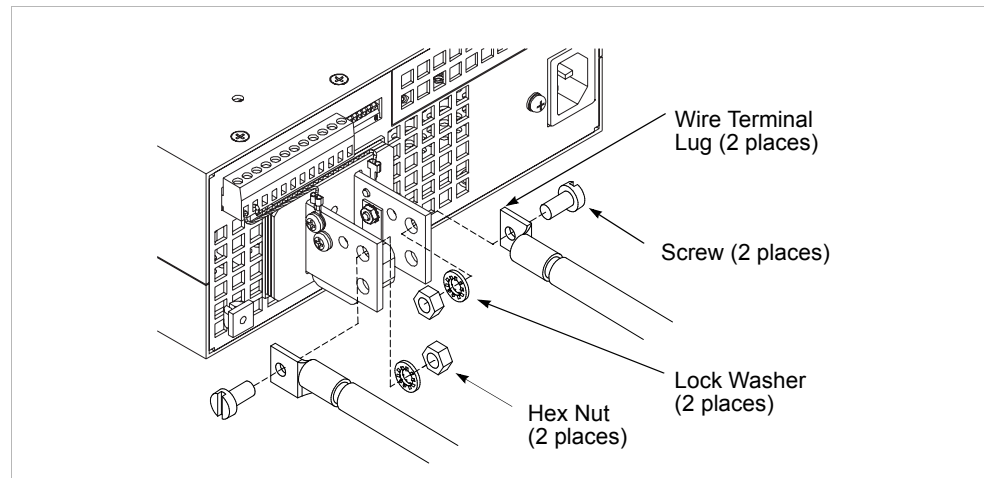

Figure 2.4 Typical Load Connection Hardware
1. Install a connecting wire terminal lug to load wiring. See Figure 2.4.